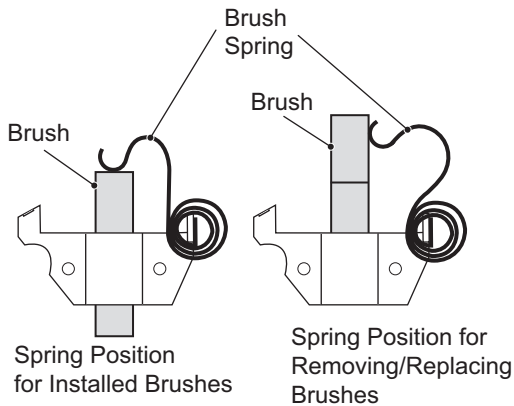
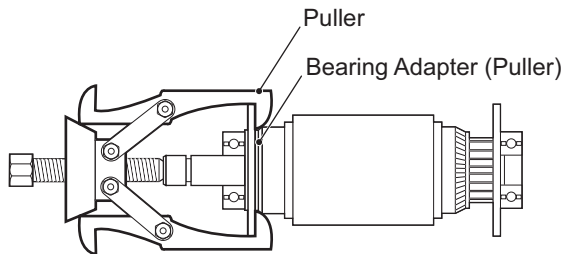

Fig. 7 Starter/Generator Brush Removal
Fig. 8 Bearing Removal
Remove the brush covers (6) by prying out with a screwdriver. Pull up on the brush springs and move to the side of brushes, slide the brushes out approximately 1/4" (6 mm) (Ref. Fig. 7). Remove the through bolts (7) and the rear cover (8). Remove the frame and field coils (9). Remove the 5 mm screws from the brush holder and 6 mm nuts from A1 and A2 terminals. Remove the brush holder. If the bearing needs to be replaced, use an automotive style two jaw puller to remove the bearing from armature (Ref. Fig. 8).